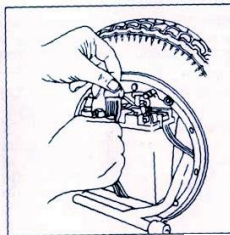

Fig. 46
- 4.3.4 Connect the fastener belt first to the lower hook, then hold the battery firmly with one hand, stretch the belt and fasten it in the upper hook. Re-check if the battery is fastened firmly (Fig. 46).